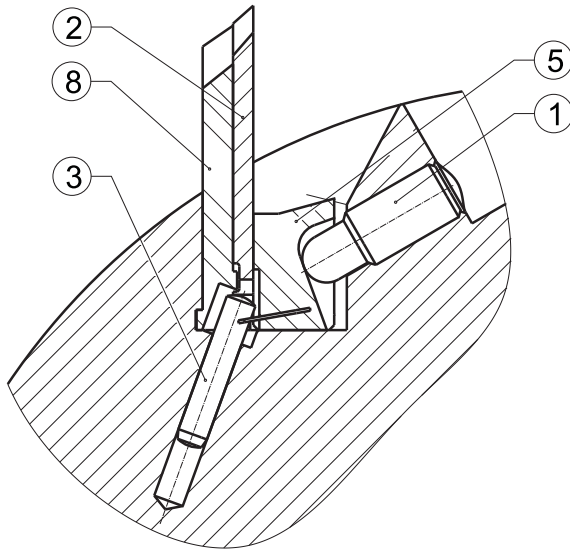
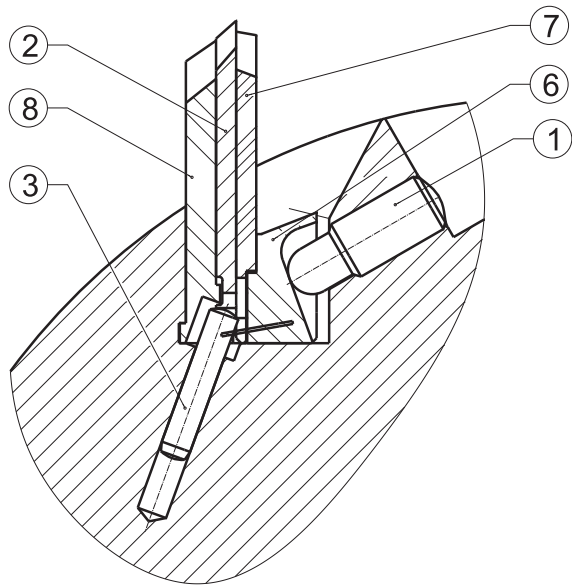

Fig.3
Fig. 4
2. Loosen the set screws (1) with the torx wrench only so far (max. 2 turns) until the profile knife (2) can be removed completely from the knife seat.
4. In use of profiled chip breaker (7) make sure of using of the corresponding profile knife (see fig. 4). The corresponding chip breaker is marked with the article number of the profile knife and the suffix "DRB".
(See Fig. 3, 4 and 9)
6. Replace the gib (5) see fig. 3 or the functional unit of gib (6) and profiled chip breaker (7) see fig. 4 properly into the knife seat and turn in the screws 2 turns. **Make sure that the end of the screws (1) comes into the corresponding ball cup of the gib (5 or 6).**
7. To replace the profile knife (2) follow the instructions of "Instructions for knife change with integrated backing plate".